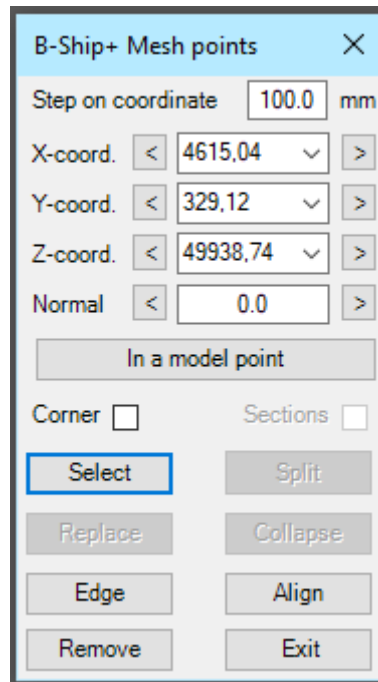

Figure 28
**Warning:** The **Edge** button is unlocked and when you select more than two points, in this case more than one edge will be formed. When you select more than two points the window will have the view shown in Figure 28, the **Align** button is unlocked. When you press the **Align** button, all selected points are moved to a straight line between the extreme points in the normal to straight points.